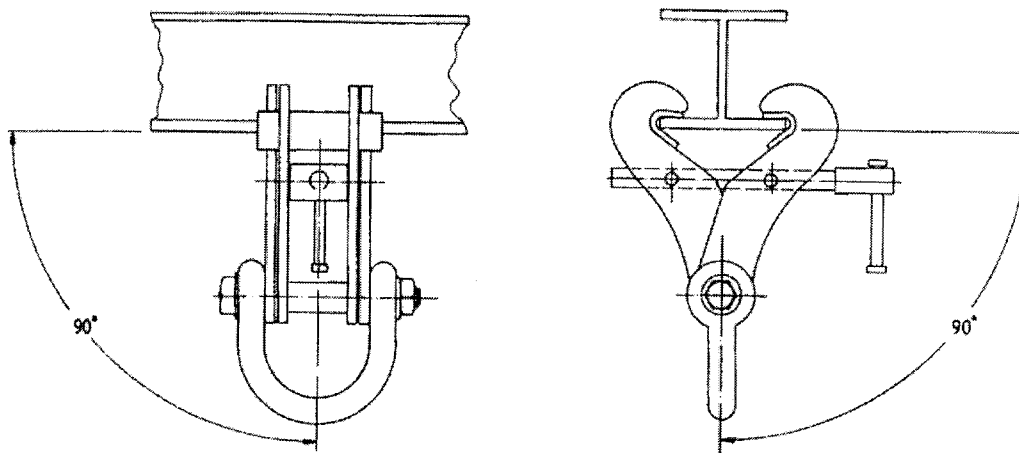

Fig 11.2
- 11.3 The majority of clamps are designed for "in-line" i.e. the line of force must be at right angles to the flange of the beam to which it is attached (see fig 11.2)